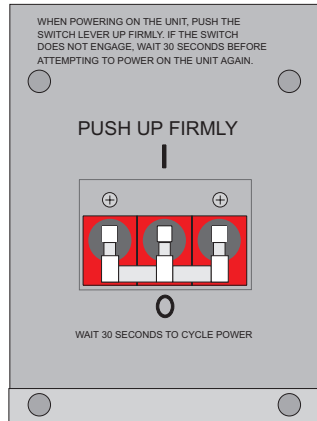

Figure 6-12. Director Power Switch and Operator Panel
2. Make sure that the power switch to the left of the operator panel on the front of the unit is in the off position (refer to Figure 6-12).